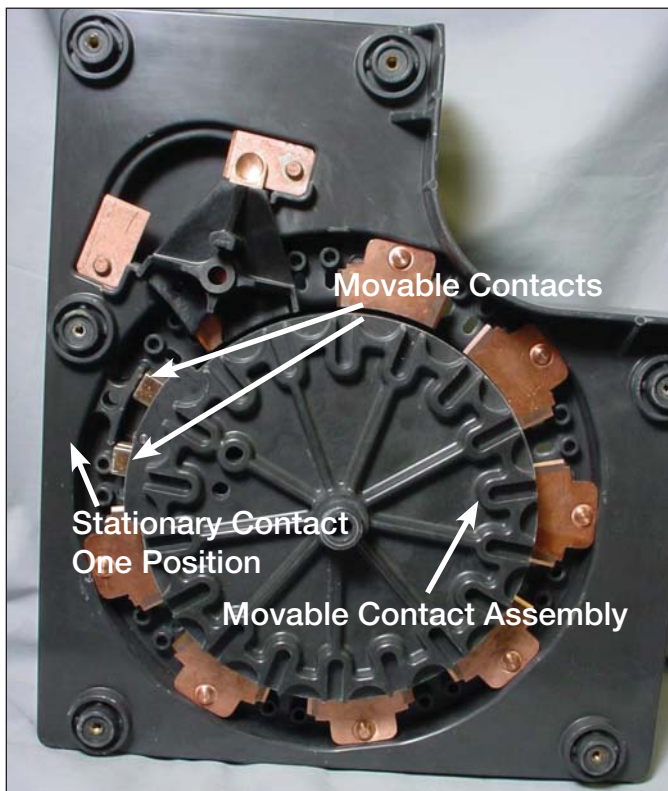

Figure 17.
2. Remove stationary contact one from the contact assembly board. See Figure 17.
3. By hand rotate the main movable contact and Geneva gear assembly so that the movable contact is in the stationary one contact position. See Figure 17.